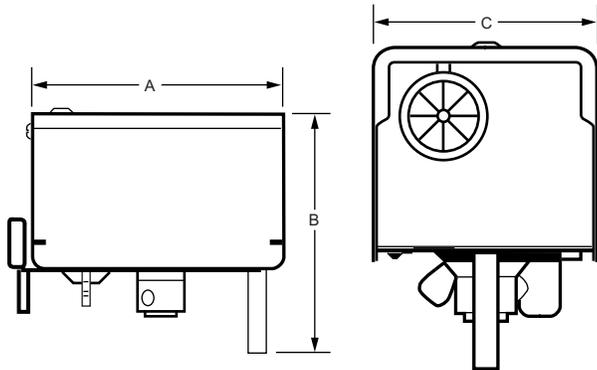

Fig. 5. Motor dimensions in inches (mm).
Motor Dimensions: See Fig. 5.
* Nominal Device Dimensions (see Fig. 5).